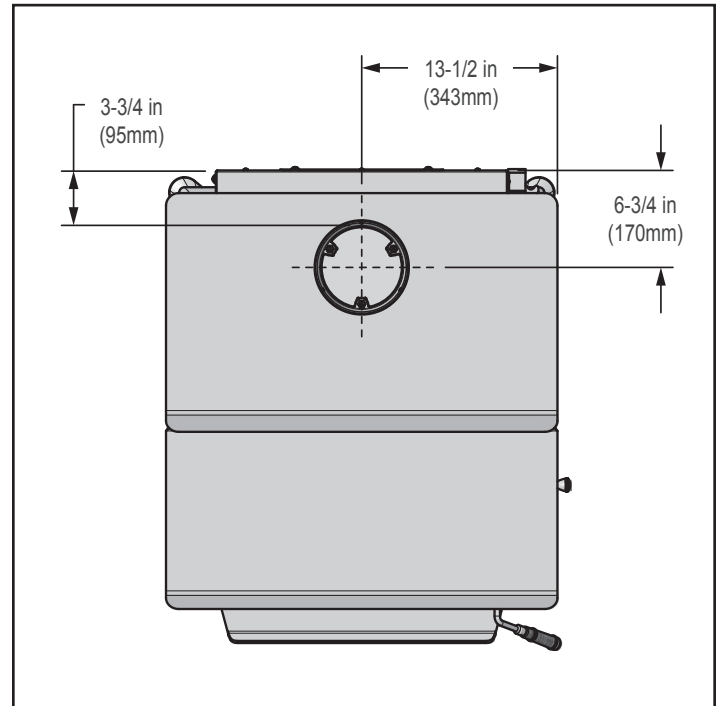

Figure 9.2 Top View
**In Canada,** similar floor protection must be provided 18 inches (457mm) in front and 8 inches (203mm) from the sides and rear of the appliance. **Figure 9.2 \*See exception.**